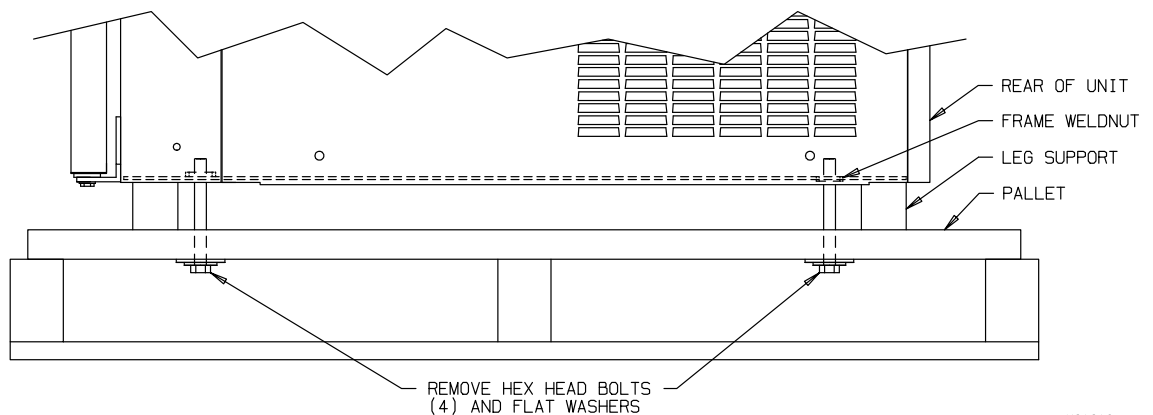

Figure 1 Freezer bolted to shipping base
1. Use caution in handling uncrating tools so as not to mar or dent the cabinet. Do not pierce the crate with a pry bar or similar tool. Note, in Figure 1, that the unit is bolted directly to the wooden pallet, or shipping base. Remove these bolts and carefully "walk" the freezer off the wooden pallet.